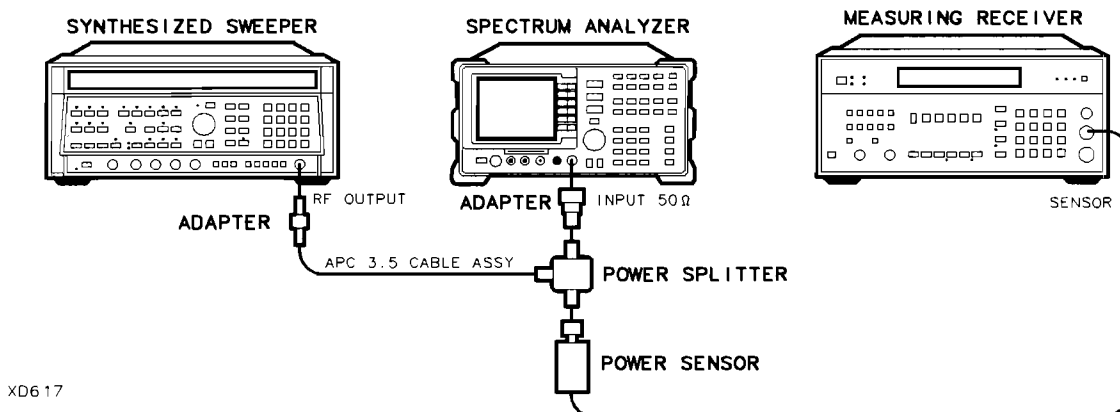

Figure 2-32. Frequency Response Test Setup, ≥ 50 MHz
2. Connect the equipment as shown in Figure 2-32.